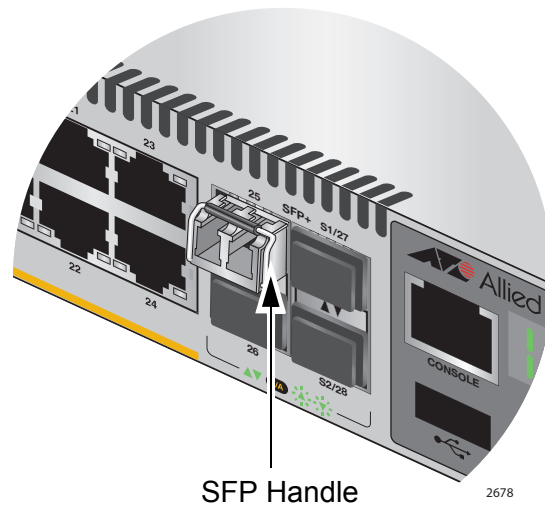

Figure 67. Positioning the SFP or SFP+ Handle in the Upright Position
6. Verify the position of the handle on the SFP transceiver. If the transceiver is in a top slot, the handle should be in the upright position, as shown in Figure 67 on page 115. If the transceiver is in a bottom slot, the handle should be in the down position.